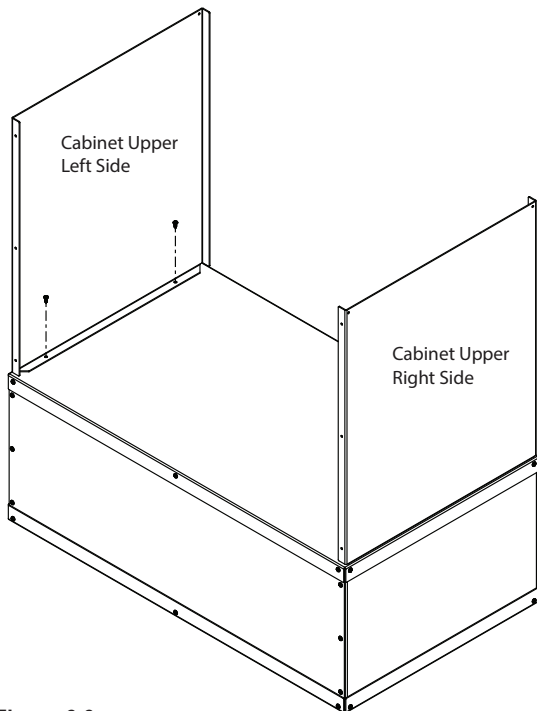

Figure 6.6
- Assemble cabinet upper right side to cabinet lower top using 2 screws. See Figure 6.6.